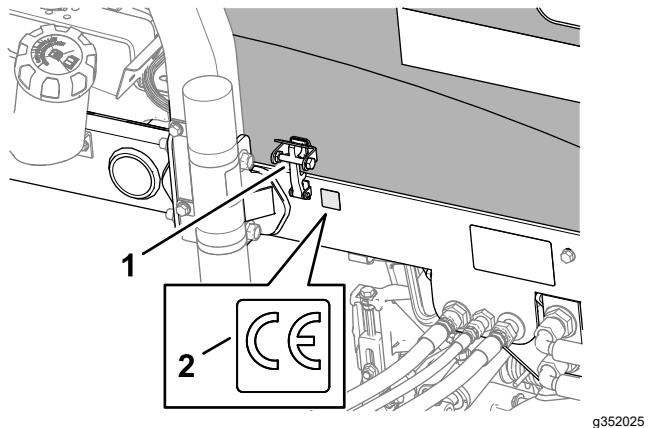

Figure 22
4. Remove the backing and apply the CE decal Part No. 133-8095 to the frame as shown in Figure 22.
3. Wipe clean the left frame near the hood lock with alcohol, and allow the frame to dry (Figure 22).